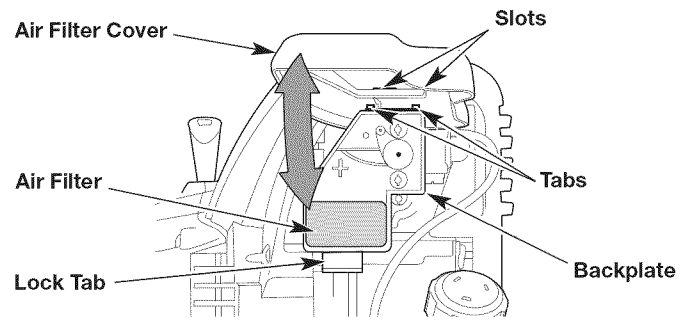

Fig. 21
1. Open the air filter cover: press in the lock tab and swing the air filter cover up (Fig. 21).
2. Remove the air filter (Fig. 21).
6. Reinstall the air filter (Fig. 21).
7. Close the air filter cover: insert the tabs on the backplate into the slots on the air filter cover. Swing the air filter cover down and press it closed until the lock tab snaps into place (Fig. 21).